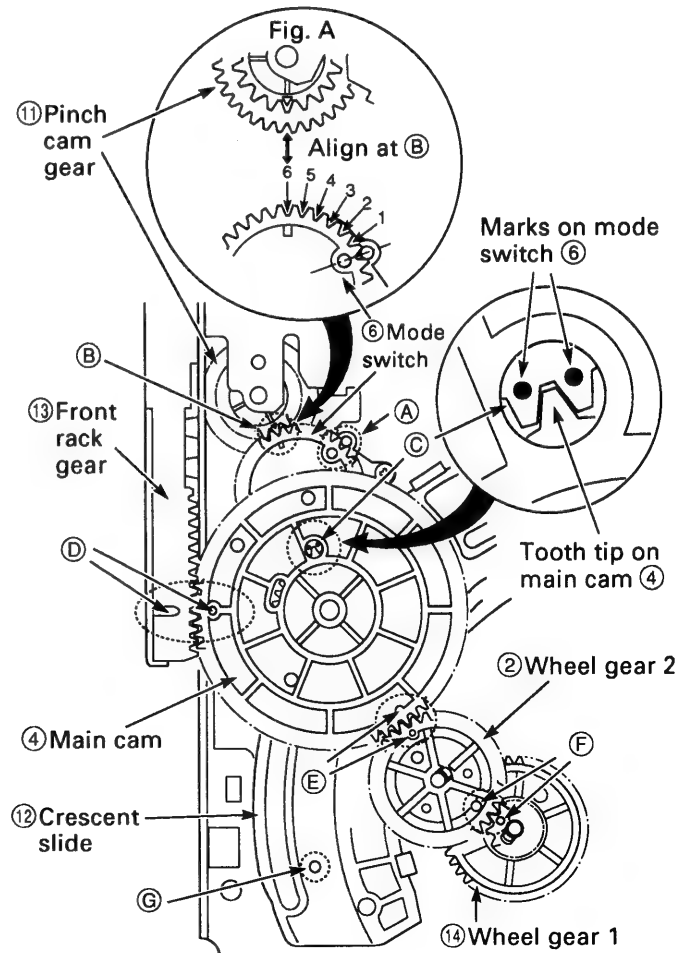
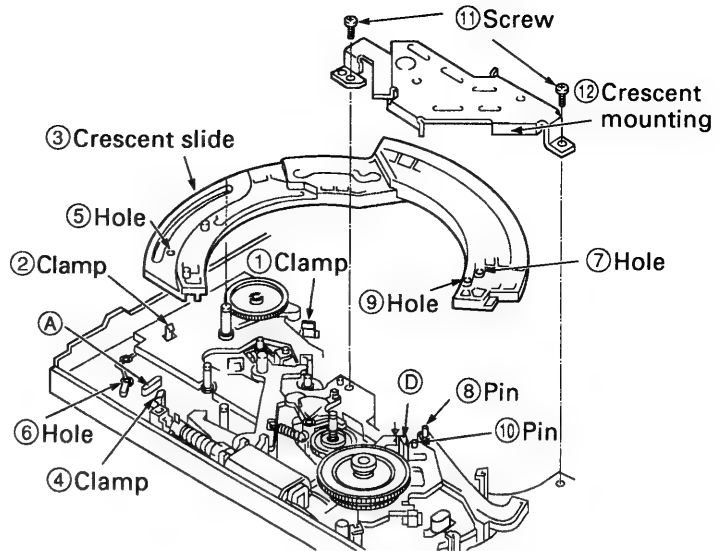
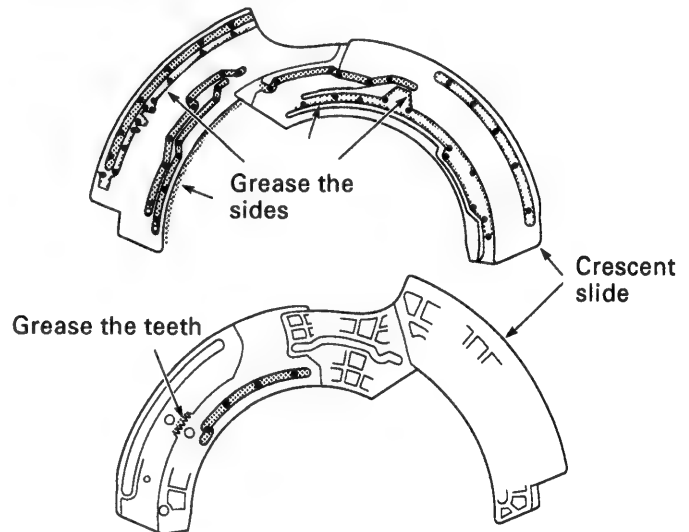

Fig.3-15-2
Fig.3-16-1
Fig.3-16-2
1. Apply grease (VHJ-0100) to the shafts ⑧, ⑨ and ⑩, to the teeth of the main cam ④, and to the all over the cam groove of main cam ④.
2. When fitting the mode switch ⑥, align it in (A)(B) order as shown in Fig.3-15-2. The alignment of the part (B) is shown in Fig. A. Position the teeth of the mode switch ⑥ so that the sixth tooth space left of part (A) is aligned with the triangular mark on the pinch cam gear ⑪. After aligning part (B), refer to section 3-9-2 and check the positioning of the mode switch, the pinch cam gear and the pinch lift cam.
4. Align the hole in the crescent slide ⑫ with the hole in the mechanism chassis, as shown at point (C) in Fig.3-15-2 (refer to section 3-16 and see the holes ⑤ and ⑥ in Fig.3-16-1).
5. When fitting the main cam ④, position the mode switch ⑥ and the front rack gear ⑬ as shown at points (C) and (D) respectively in Fig.3-15-2.
6. When fitting the gear wheel 2 ②, position the main cam ④ and the wheel gear 1 ⑭ as shown at points (E) and (F) respectively in Fig.3-15-2.
(See Figs.3-16-1 and 3-16-2)
1. Apply grease (VHJ-0100) to the points A, B, C and D in Fig.3-16-1, and to the crescent slide ③ shown in Fig.3-16-2.